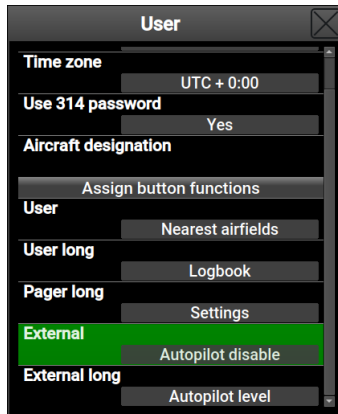

Figure 3.12: External push button configuration. The example shows autopilot settings, but any other functions can be used instead.
3. Scroll down the window and search for the **External** and **External long** items. Assigne them functions of your choice. A typical example is shown on Figure 3.12. **External** represents the short press event on the external button and the **External long** represents the long press event.